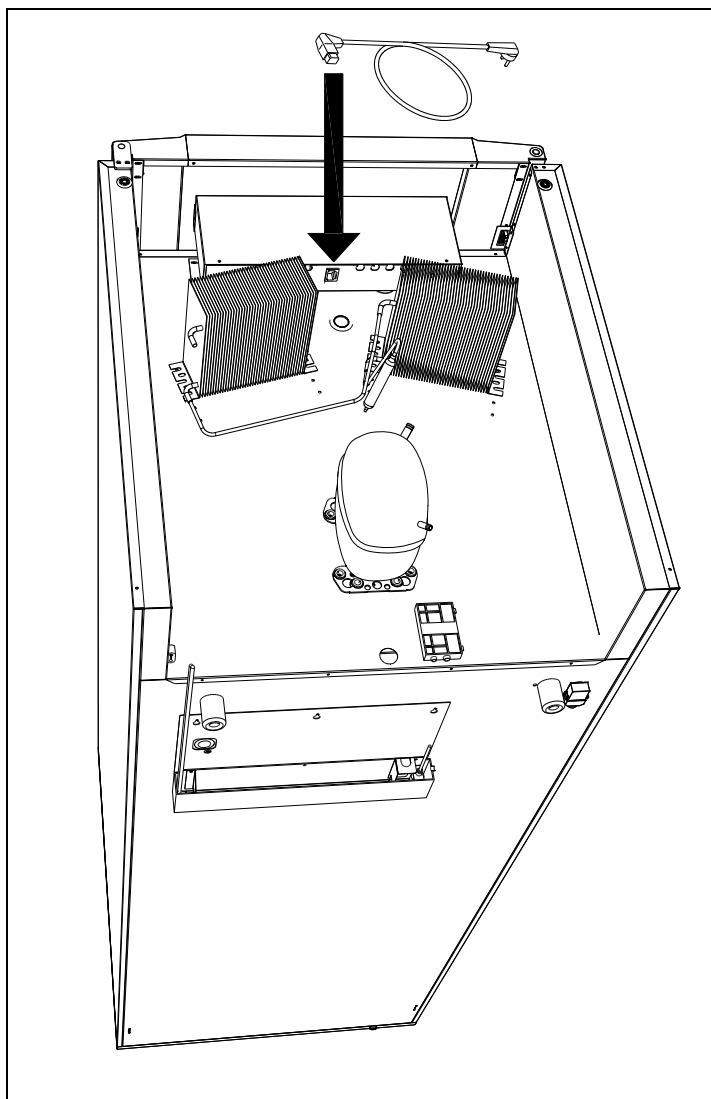

Fig. 4
The cabinet is intended for connection to alternating current. The connection voltage (V) and frequency (Hz) are shown on the name plate in the cabinet (see Fig. 7). Only the supplied detachable powercord is to be used (see Fig. 4).